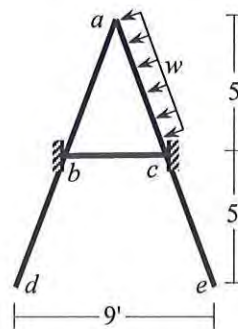

Fig.3
- Frame structure *abcde* shown in **Fig.3** is subjected to a dynamic load, $w = 5t^2 \text{ (k/ft)}$. Use *Constant Average Acceleration (CAA)* Method to calculate the rotation of joint *a* at time $t = 0.10 \text{ sec}$